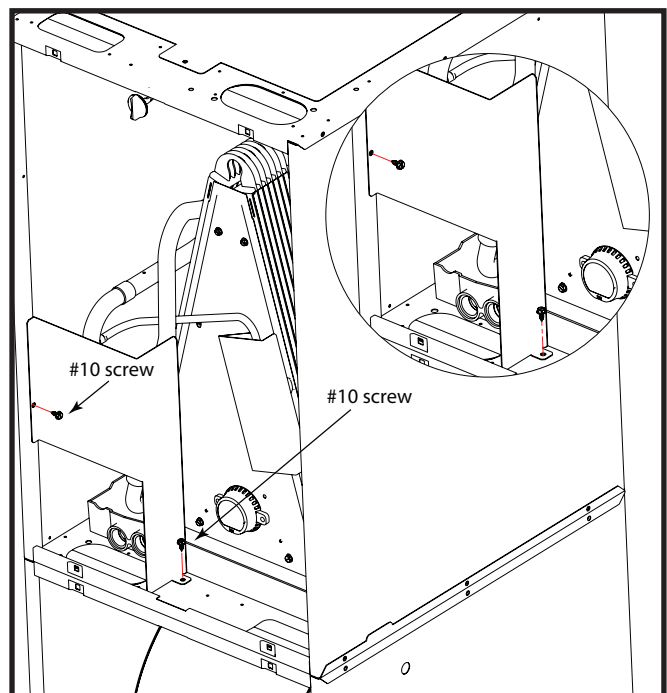

Figure 3. Left Guard Fastened with Screws
4. Install the left guard as shown in Figure 3 and secure with 2 of the supplied fasteners.